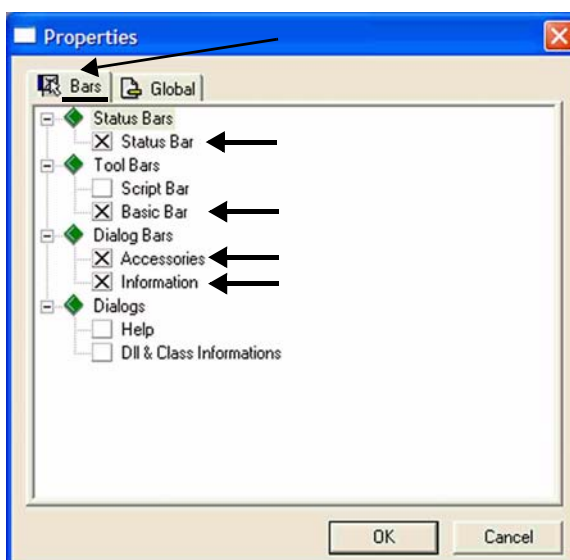

Figure 3-9. Visibility of individual toolbars
3. In the Properties dialog box, select the **Bars** tab. See Figure 3-9.